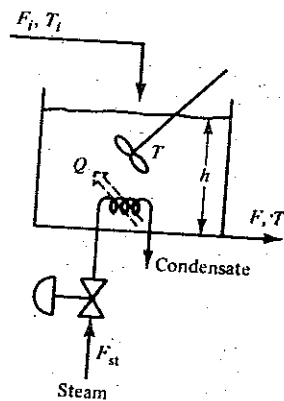

FIGURE 1
1. Find the total no of variables, total no of equations & the degrees of freedom for the binary distillation column shown in Figure 1 [10M]
1. Derive the state equations and find the degree of freedom for the stirred tank heater shown in figure 1. [5M]